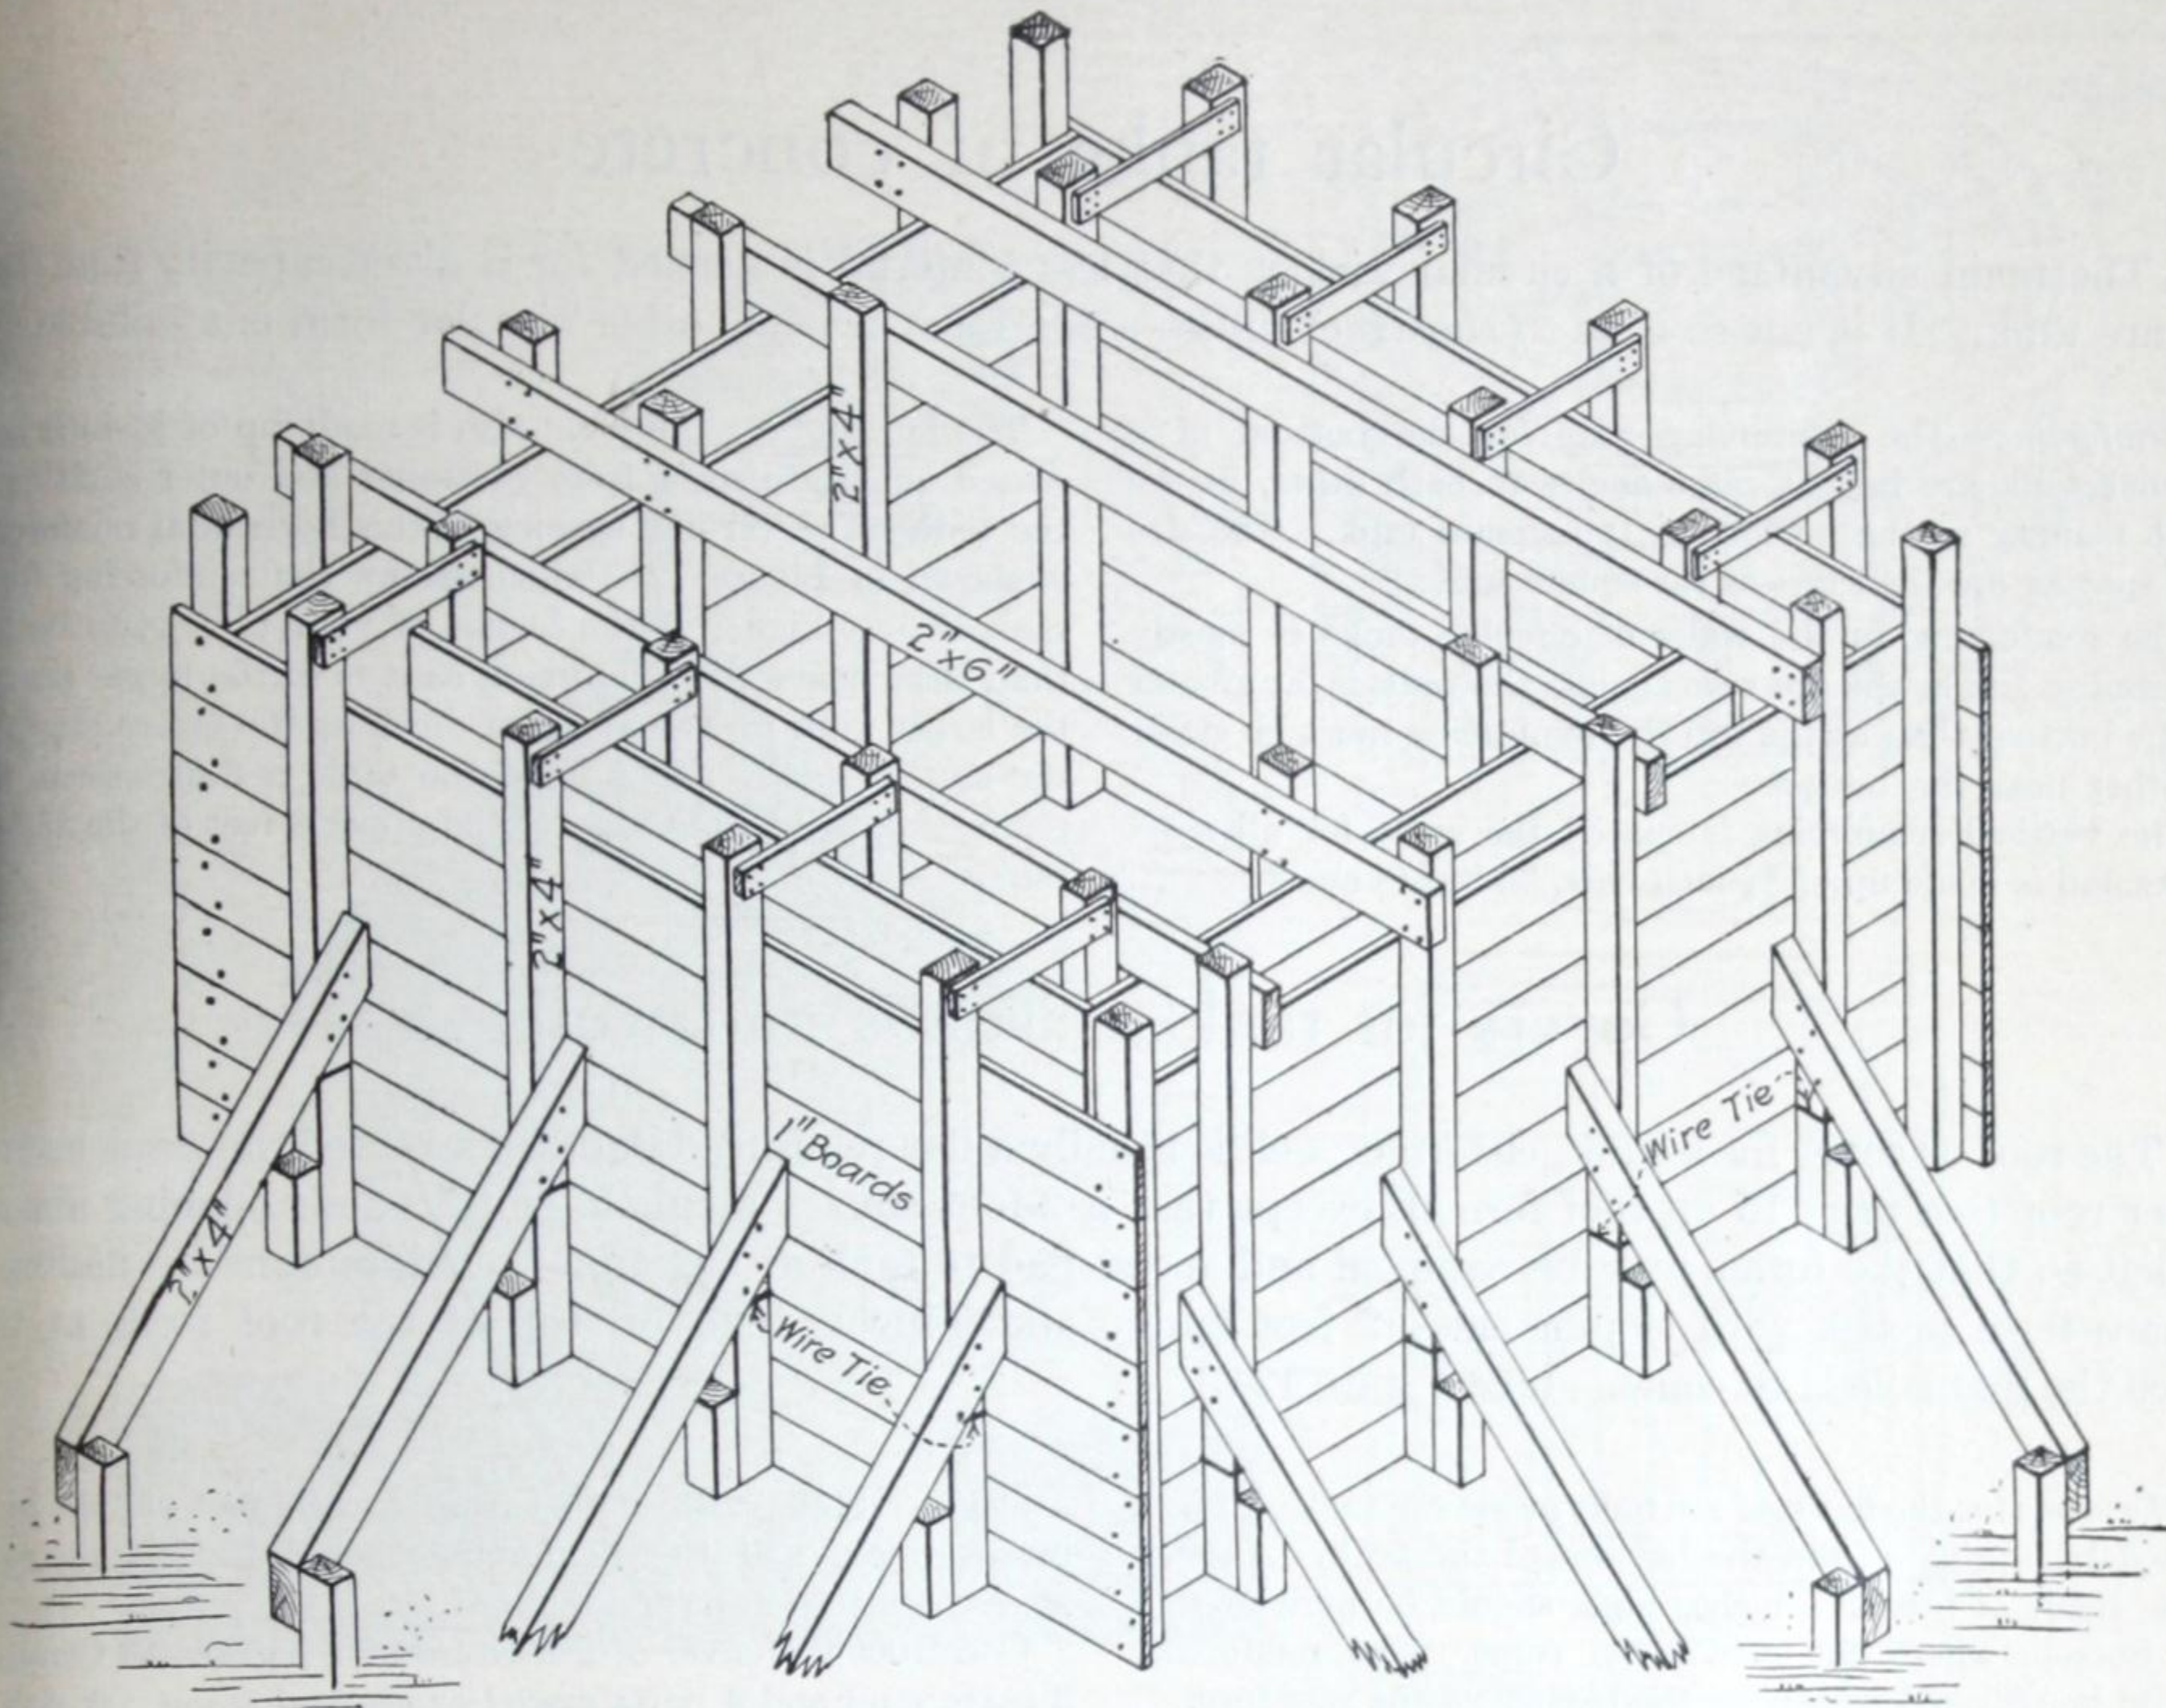

Fig. 119—Forms and bracing required for a concrete tank construction.
**Forms**—Tanks may be built square or circular. The forms are built as shown in Figure 119. Build the inside forms first, resting the upright studs that come down on the inside of the tank forms on blocks the thickness of the bottom of the tank. The boards of the inside form will only come down to the top of the floor of the tank. The tops of the studs of the inside forms are nailed to the 2-by-6-inch cross planks extending to the top of the tank. The blocks supporting the inside forms may then be removed as these forms hang from the 2-by-6-inch cross planks.